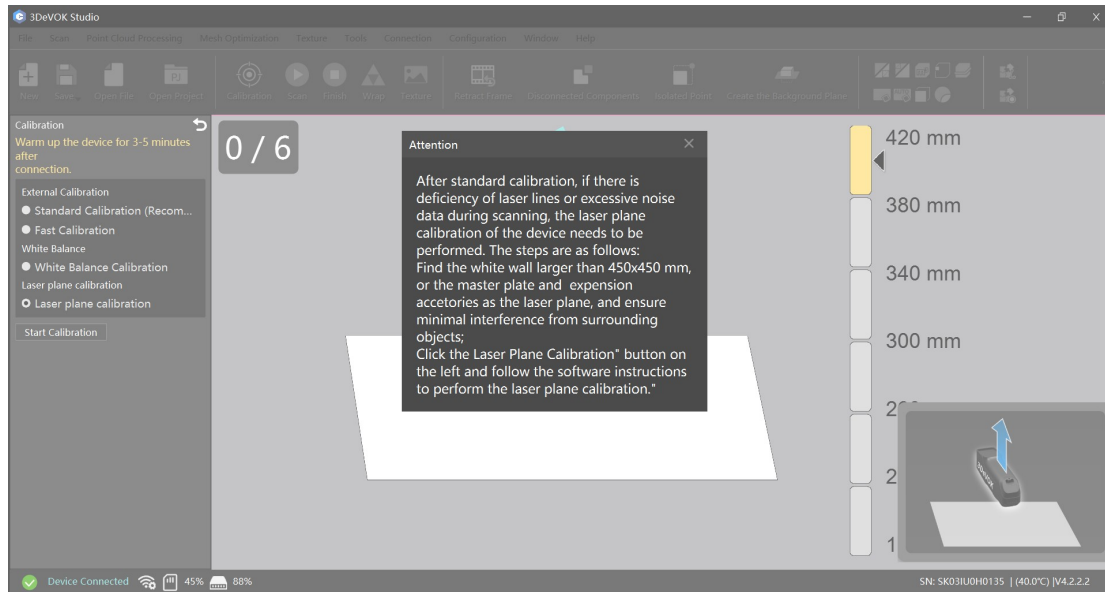

Figure 6-4 Laser Calibration
2. Select the "Laser Plane Calibration" function on the left, and process the calibration following the on-screen instructions, as shown in Figure 6-4.